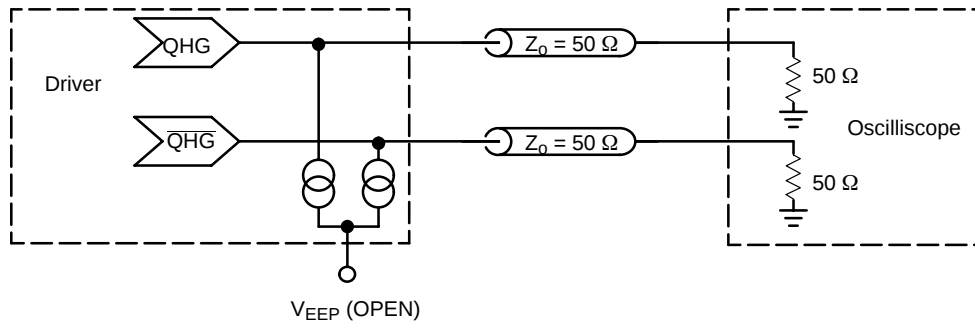
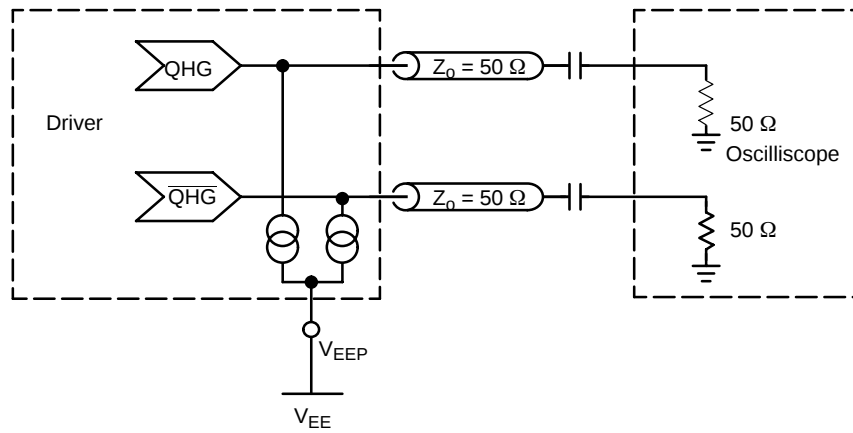

Figure 11. QHG/ $\overline{\text{QHG}}$ Device Evaluation Set-up; V_{EEP} = OPEN
Figure 12. QHG/ $\overline{\text{QHG}}$ Device Evaluation Set-up; V_{EEP} = V_{EE}
- QHG/QHG outputs loaded with $50\ \Omega$ to $V_{CC} - 2.0\text{ V}$ ($V_{EEP} = \text{OPEN}$) Figure 11 or with optional current source ($V_{EEP} = V_{EE}$) Figure 12. Q/Q outputs loaded with 8 mA current source (CS_SEL = V_{EE}).
13. QHG/QHG outputs loaded with $50\ \Omega$ to $V_{CC} - 2.0\text{ V}$ ($V_{EEP} = \text{OPEN}$) Figure 11 or with optional current source ($V_{EEP} = V_{EE}$) Figure 12. Q/Q outputs loaded with 8 mA current source (CS_SEL = V_{EE}).
17. QHG/QHG outputs loaded with $50\ \Omega$ to $V_{CC} - 2.0\text{ V}$ ($V_{EEP} = \text{OPEN}$) Figure 11 or with optional current source ($V_{EEP} = V_{EE}$) Figure 12. Q/Q outputs loaded with 8 mA current source (CS_SEL = V_{EE}).
24. Assumes 50% Input Duty Cycle, see Figures 11 or 12.